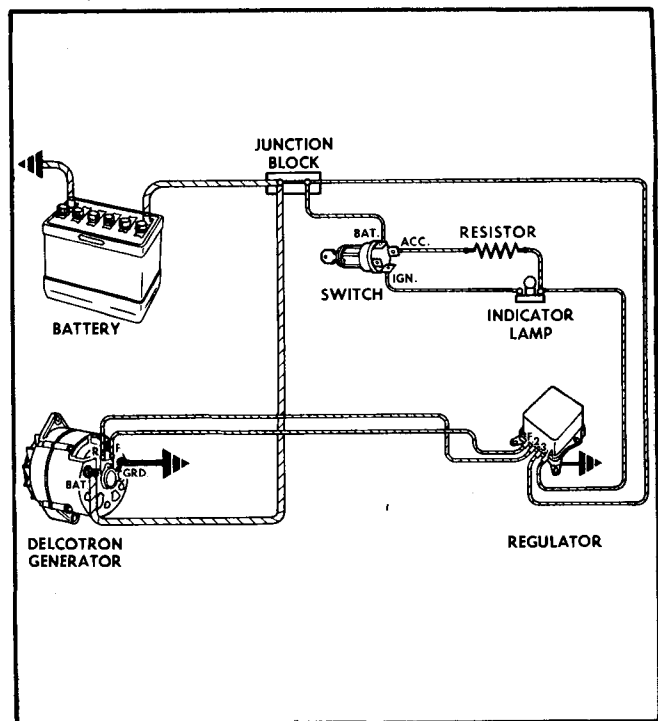

Fig. 6E-30 Checking Rotor
1. To check for grounds, connect a 110-volt test lamp or ohmmeter from either slip ring to rotor shaft, or to rotor poles. If lamp lights or ohmmeter reading is low, the field winding is grounded (Fig. 6E-30).
2. To check for opens, connect test lamp or ohmmeter to each slip ring. If lamp fails to light or if the ohmmeter reading is high (infinite), winding is open (Fig. 6E-30).